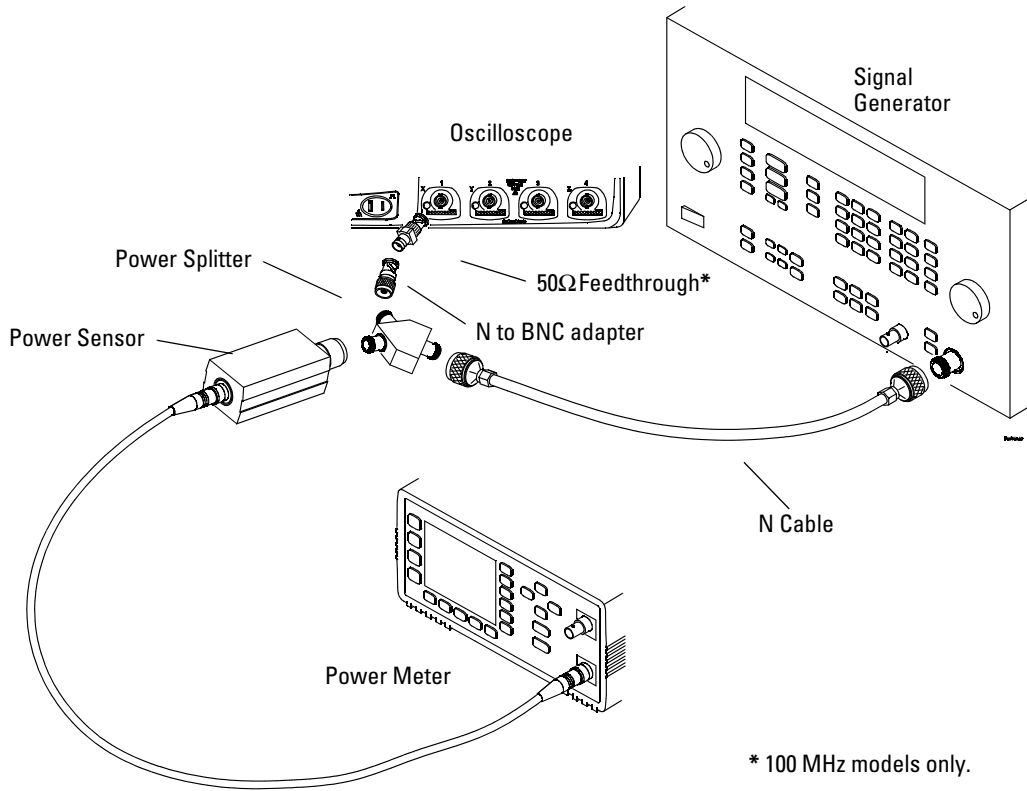

Figure 5 Connect equipment
- 1** Connect the equipment (see Figure 5).